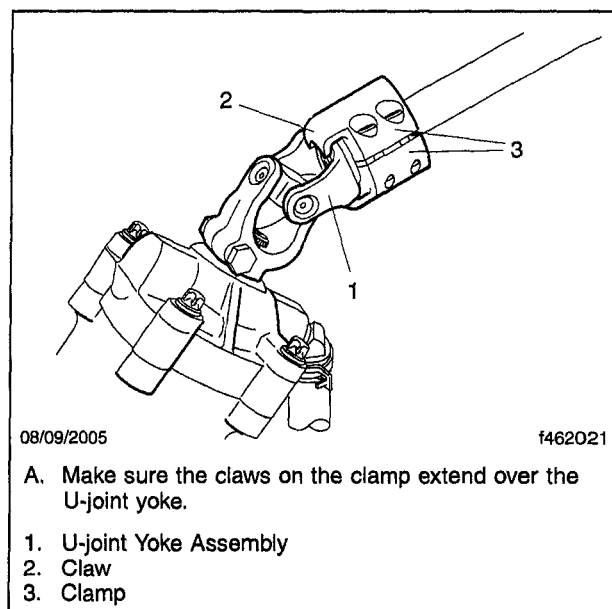

Fig. 2, Clamp Installation on the Steering Shaft (Freightliner Vehicle Installation Shown)
5. Install the clamp from the kit on the steering shaft, with the claws extending over the U-joint yoke. See **Fig. 2**.